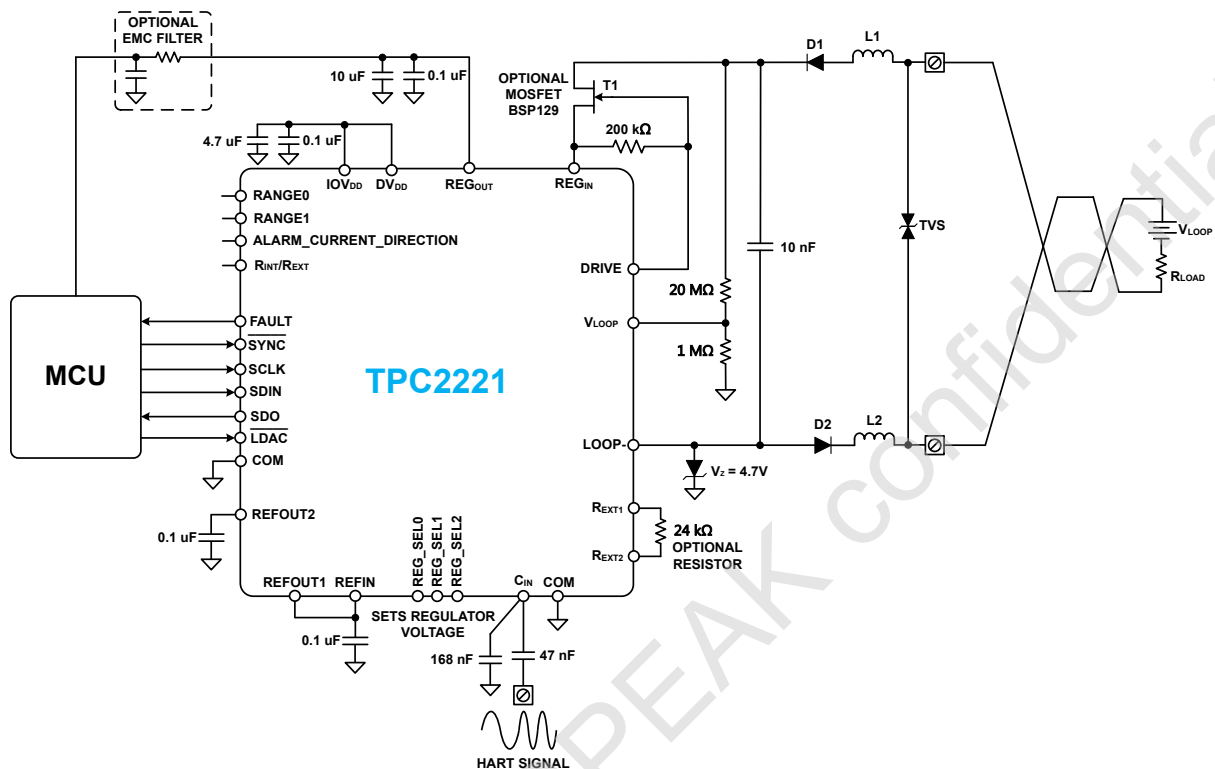

Figure 47. TPC2221 Application Diagram for HART Capable Smart Transmitter
**Figure 47** shows a typical connection diagram for the TPC2221 in a HART-enabled smart transmitter setup. To minimize power consumption on the chip, a depletion mode MOSFET (T1), such as BSP129, may be incorporated between the loop voltage and the TPC2221 as depicted in **Figure 47**. If a low loop voltage is used, T1 can be bypassed, allowing the loop voltage to connect directly to REGIN (refer to **Figure 42**). In the configuration shown in **Figure 47**, all interface signal lines are linked to the microcontroller. To streamline the interface signal lines, the LDAC signal can be connected to COM, and the SDO and FAULT lines can be left open. However, this setup forfeits the fault alert capabilities. Under typical operating conditions, the voltage between COM and LOOP- stays below 1.5 V, with LOOP- being at a negative potential relative to COM. Should there be a risk of LOOP- being forced positive relative to COM, or if the voltage differential between LOOP- and COM could exceed 5 V, a 4.7 V low leakage Zener diode should be installed between COM and the LOOP- pin, as indicated in **Figure 47**, to safeguard the TPC2221 from potential damage. Furthermore, to enhance the TPC2221's stability in long-line applications, it is necessary to install a 100 nF capacitor at the port